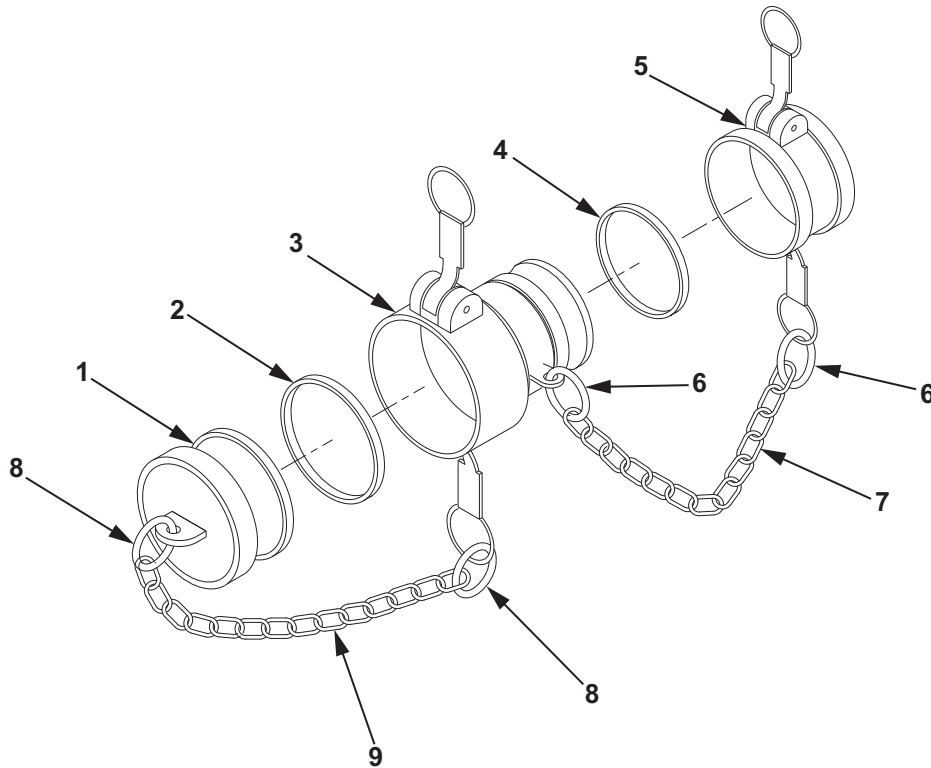

Figure 1. 4 In. Female X 3 In. Male Reducer Disassembly.
1. Remove 4 in. dust plug (Figure 1, Item 1) from reducer assembly (Figure 1, Item 2).
2. Remove 3 in. dust cap (Figure 1, Item 5) from reducer assembly (Figure 1, Item 3).
3. Remove gasket (Figure 1, Item 2) from reducer assembly (Figure 1, Item 3). Discard gasket (Figure 1, Item 2).
4. Remove gasket (Figure 1, Item 4) from 3 in. dust cap (Figure 1, Item 5). Discard gasket (Figure 1, Item 4).
5. Remove split rings (Figure 1, Item 8) from 4 in. dust plug (Figure 1, Item 1) and reducer assembly (Figure 1, Item 3).
6. Remove split rings (Figure 1, Item 8) from chain (Figure 1, Item 9).
7. Remove split rings (Figure 1, Item 6) from 3 in. dust cap (Figure 1, Item 5) and reducer assembly (Figure 1, Item 3).
8. Remove split rings (Figure 1, Item 6) from chain (Figure 1, Item 7)